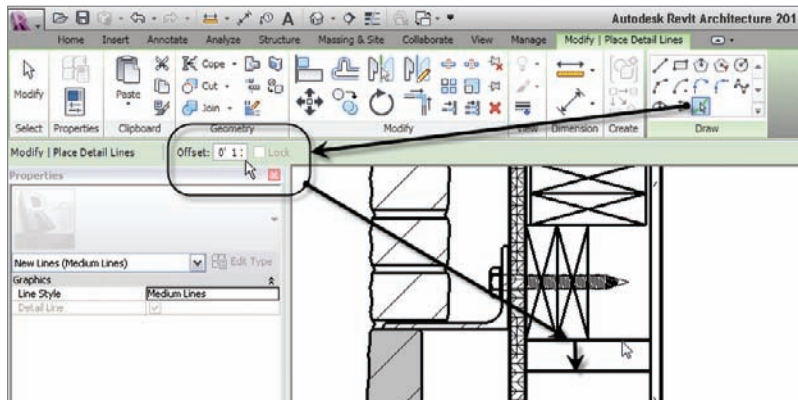

FIGURE 12.49 Offsetting the line down 1 1/2" to create a second line
7. Change the Offset to 1 1/2", as shown in Figure 12.49.
8. Offset the line you just drew down 1 1/2", as shown in Figure 12.49.